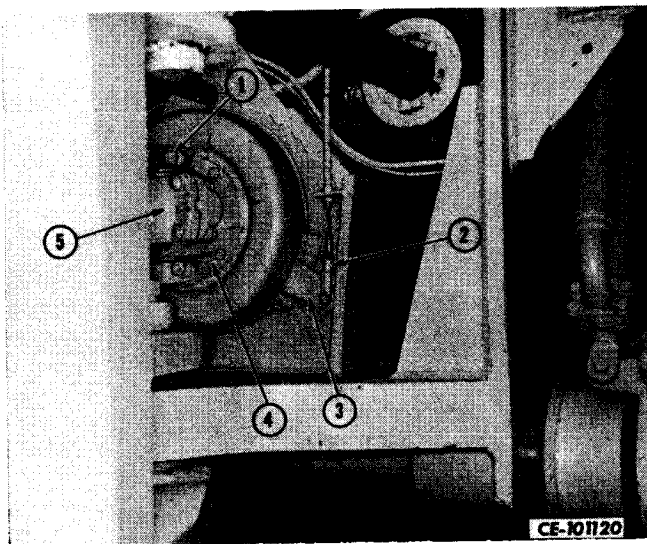

Figure 5-14
Remove cap screws and lock nuts (1, Fig. 5-14) that secure drive shafts (5) to transfer drive yokes (4). Remove drive shafts from yokes.